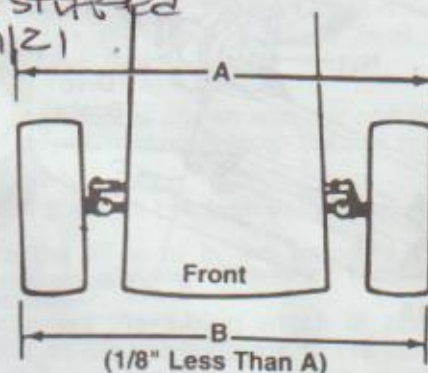

FIGURE 17
3. Adjust the tie rod assembly for correct toe-in. Dimension "B" should be approximately 1/8" less than Dimension "A". See figure 17.